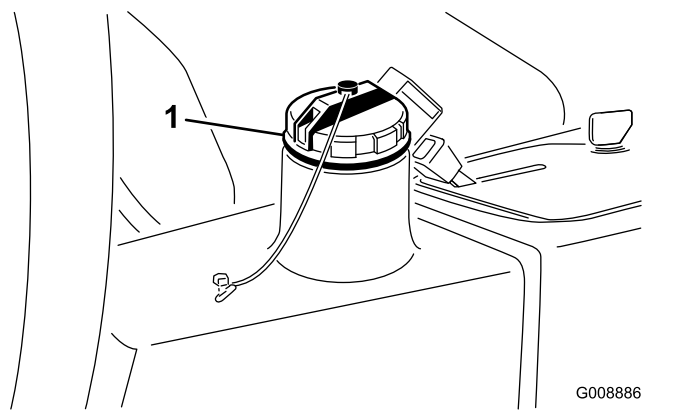

Figure 79
4. Fill the reservoir (Figure 79) with approximately 13.2 L (3.5 US gallons) of hydraulic fluid; refer to Checking the Hydraulic System \(page 49\).